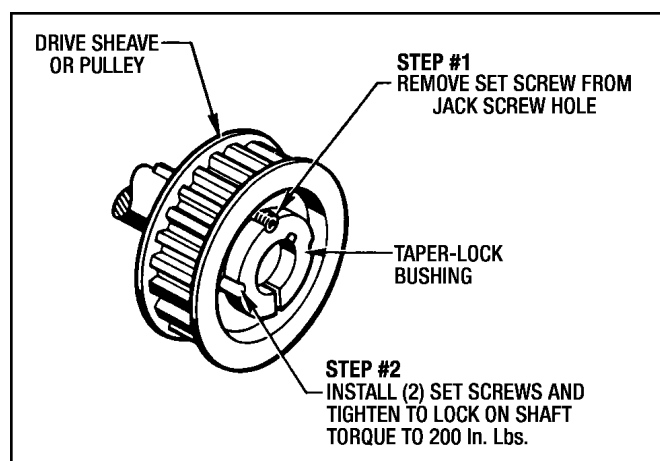

Figure 9.12 - Installing Sheave or Pulley
2. Assemble the Taper-Lock Bushing and the Drive Sheave or Pulley with the (2) Set Screws placed in the locking holes.
3. Place assembled Sheave or Pulley onto the Male Input Shaft as close as possible to the unit to minimize overhang shaft deflection. Tighten the (2) Set Screws to lock it on the shaft. (See Figure 9.12)